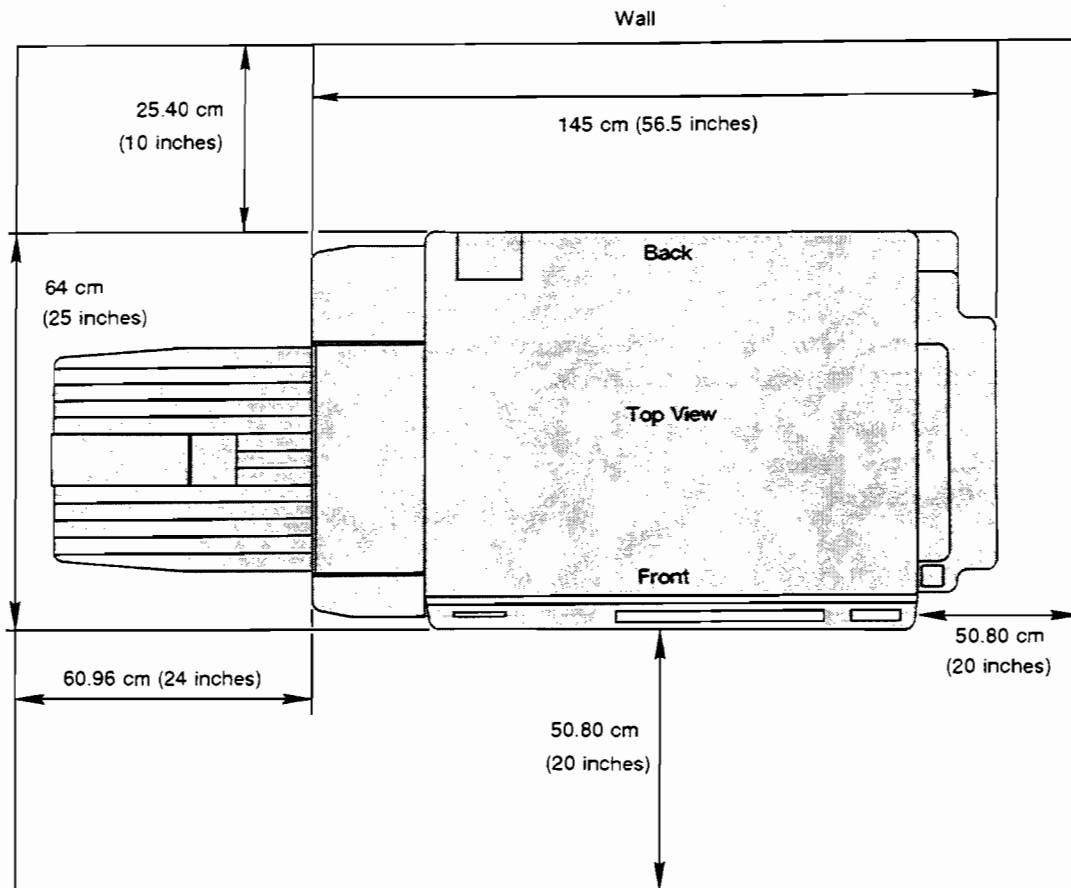

Figure 2-1. Printer Dimensions and Clearance (top view)
- Install away from walls or other objects. There must be enough space around the printer for proper access and operation (see Figure 2-1).